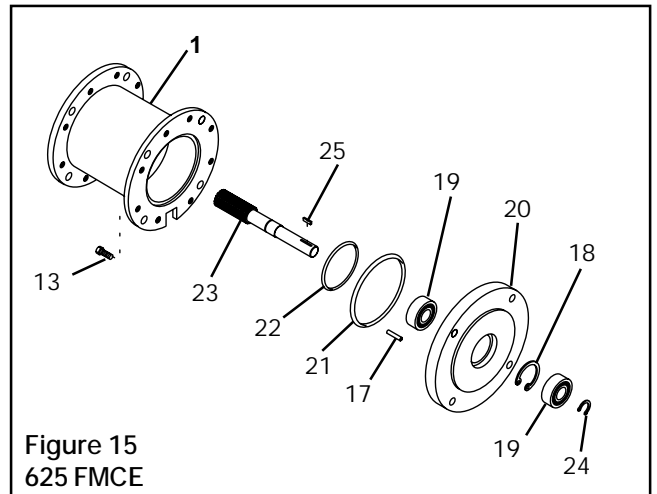
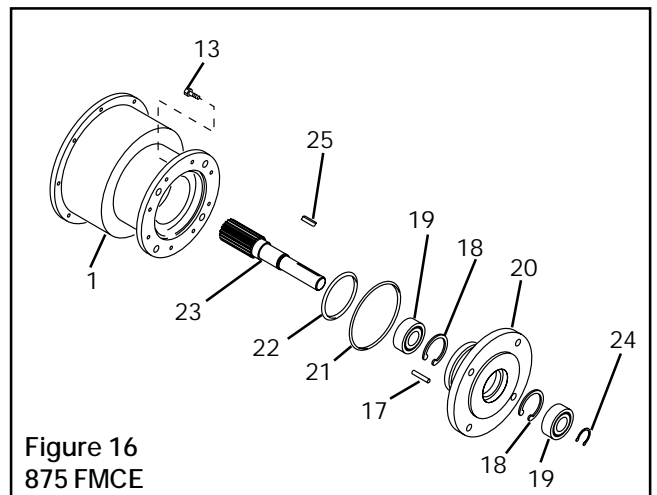

Figure 15
Figure 16
1. Remove the Key (Item 25) from the Stub Shaft (Item 23) (See Figure 15 for Model 625 FMCE or 16 for Model 875 FMCE).
2. Remove the Retaining Ring (Item 24) (See Figures 15 and 17 for Model 625 FMCE or Figures 16 and 18 for Model 875 FMCE).
3. Press the Stub Shaft (Item 23) out of the Male Pilot (Item 20) and Bearings (Item 19) (See Figures 15 and 17 for Model 625 FMCE or Figures 16 and 18 for Model 875 FMCE).
4. Press the Bearing (Item 19) that is still in the Male Pilot (Item 20) out of the Male Pilot (Item 20) (See Figures 15 and 17 for Model 625 FMCE or Figures 16 and 18 for Model 875 FMCE).
5. Using a bearing puller, remove the second Bearing (Item 19) from the Stub Shaft (Item 23) (See Figures 15 and 17 for Model 625 FMCE or Figures 16 and 18 for Model 875 FMCE).
6. Clean the bearing bore of the Male Pilot (Item 20) with fresh safety solvent, making sure all old Loctite® residue is removed; then, apply an adequate amount of Loctite® 680 to evenly coat the outer race of both new Bearings (Item 19) (See Figures 15 and 17 for Model 625 FMCE or Figures 16 and 18 for Model 875 FMCE).
7. Supporting the Male Pilot and pressing on the outer bearing race, press one new Bearing (Item 19) into the Male Pilot until it is seated against the Retaining Ring (Item 18) inside the Male Pilot (See Figures 15 and 17 for Model 625 FMCE or Figures 16 and 18 for Model 875 FMCE).
8. Support the inner race of the bearing pressed into the Male Pilot in Step 7 and press the Stub Shaft (Item 23) into the Bearing (Item 19) and Male Pilot (Item 20) (See Figures 15 and 17 for Model 625 FMCE or Figures 16 and 18 for Model 875 FMCE).
9. Pressing on both the inner and outer races, press the second Bearing (Item 19) onto the Stub Shaft (Item 23) and into the Male Pilot (Item 20) (See Figures 15 and 17 for Model 625 FMCE or Figures 16 and 18 for Model 875 FMCE).
10. Reinstall the Retaining Ring (Item 24) (See Figures 15 and 17 for Model 625 FMCE or Figures 16 and 18 for Model 875 FMCE).
11. Remove the old O-ring Seals (Items 21 and 22) (See Figures 15 and 17 for Model 625 FMCE or Figures 16 and 18 for Model 875 FMCE).
12. Clean the O-ring Seal contact surfaces of the Housing (Item 1) and Male Pilot (Item 20) with fresh safety solvent (See Figures 15 and 17 for Model 625 FMCE or Figures 16 and 18 for Model 875 FMCE).
14. Coat the new O-ring Seals (Item 21 and 22) with fresh O-ring lubricant (See Figures 15 and 17 for Model 625 FMCE or Figures 16 and 18 for Model 875 FMCE).
15. Install the new O-ring Seals (Item 21 and 22) onto the Male Pilot (Item 20) (See Figures 15 and 17 for Model 625 FMCE or Figures 16 and 18 for Model 875 FMCE).
16. Coat the splined end of the Stub Shaft (Item 23) with a thin film of Never-Seez® (See Figures 15 and 17 for Model 625 FMCE or Figures 16 and 18 for Model 875 FMCE).
17. Align the Slotted Spring Pin (Item 17) in the Male Pilot with the hole in the Piston and carefully slide the Male Pilot Assembly into the Housing and Piston/Splined Disc Assembly (See Figures 15 and 17 for Model 625 FMCE or Figures 16 and 18 for Model 875 FMCE).
18. Apply a drop of Loctite® 242 to the threads of the Hex. Head Cap Screws (Item 13) (See Figure 15 for Model 625 FMCE or Figure 16 for Model 875 FMCE).
19. Using the Hex. Head Cap Screws (Item 13), secure the Male Pilot to the Housing (Item 1) (See Figure 15 for Model 625 FMCE or Figure 16 for Model 875 FMCE).
21 Apply a drop of Loctite^a 242 to the Key (Item 25) (See Figure 15 for Model 625 FMCE or Figure 16 for Model 875 FMCE).
22. Press the Key (Item 25) into the Stub Shaft (Item 23) (See Figure 15 for Model 625 FMCE or Figure 16 for Model 875 FMCE).